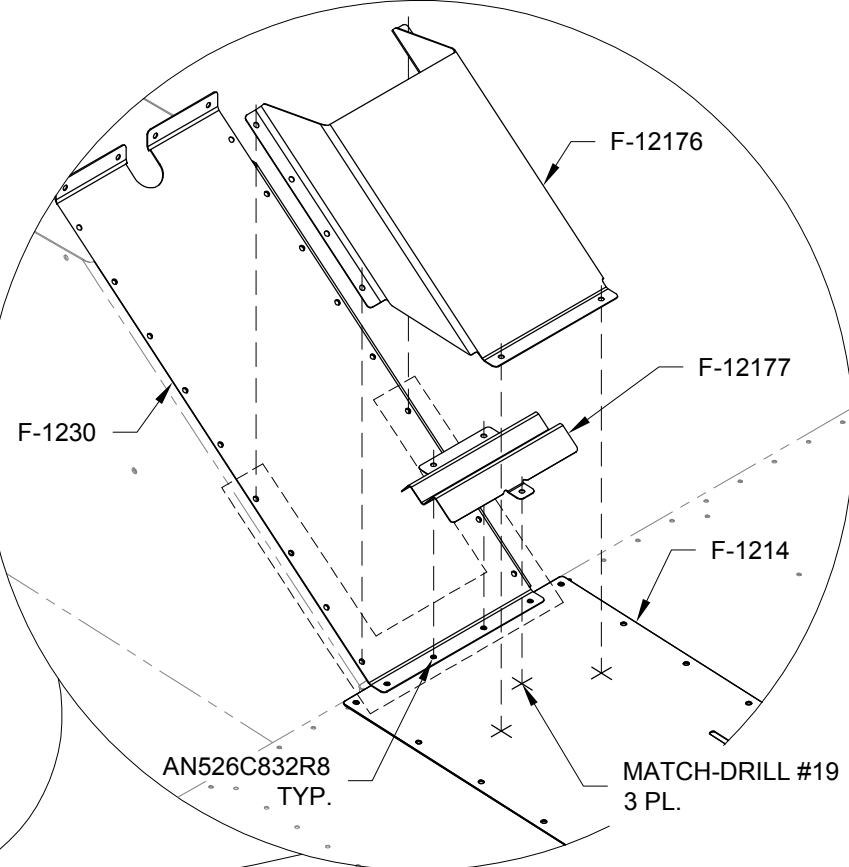

FIGURE 1: MATCH-DRILLING STEP FLOOR COVER
Step 1 (POSTCONST): Remove the 12 aft-most screws attaching the F-1230 Tunnel Cover to the sub-structure. See Figure 1.
Step 2: Attach the F-12177 Pocket Base to the lower flange of the F-1230 Tunnel Cover using two screws as shown in Figure 1.